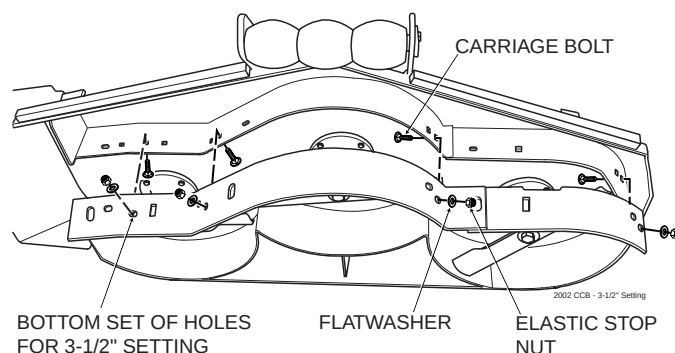

Figure 10. 3-1/2" Custom Cut Baffle Position
- B. 3-1/2" Position (factory setting) - baffle is installed using the bottom set of holes on the Custom Cut Baffle. (See Figure 10). For general purpose cutting, place the Custom Cut Baffle in the 3-1/2" position. This gives the best mix of cutting performance in all types of grass.
3. Reinstall the mounting hardware as shown. (See Figures 10 through 11). Torque hardware to 39ft.lbs.